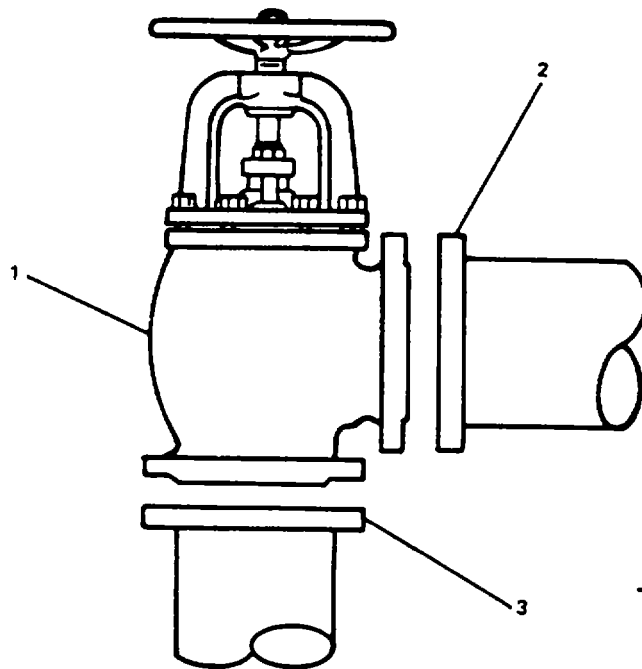

Figure 2-90. Remove Stop Check Angle Valve (Typical).
- b. Use welding torch to cut valve (1, Figure 2-90) at pipes (2, 3).
Figure 2-90 shows a flanged valve. Valves may also have silver braized union fittings.